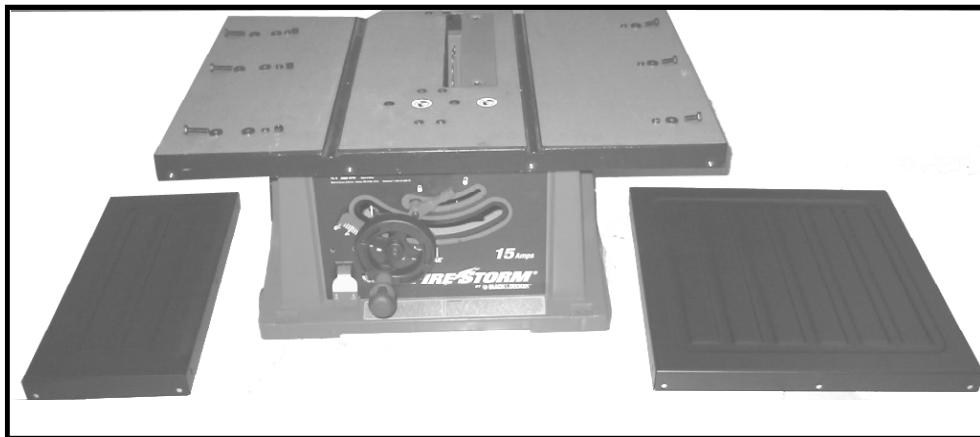

Fig. 18
1. Assemble left extension wing (Fig.18), to the saw table using 1/4-20X1"hex head screws (3), 1/4"flat washers (6), 1/4"lockwashers (3),1/4"hex nuts (3).
2. Assemble right extension wing into the threaded holes of the saw using 1/4"-20X5/8" hex head screws (3), 1/4"flat washers (3) 1/4"lockwashers (3).